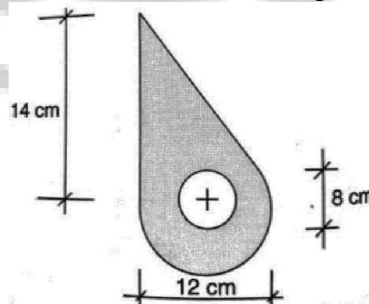

Fig. 5
- 12 Locate the centroid of the shaded area shown in Fig. 5 (10)